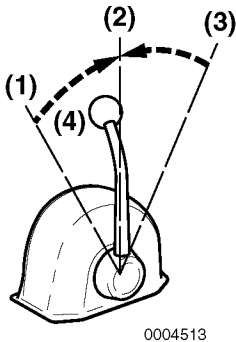

Figure 2
Use the throttle handle (Figure 2, (4)) to control acceleration and deceleration. Move the handle slowly.
2. When moving the handle between FORWARD (Figure 2, (1 or 3)) and REVERSE (Figure 2, (3 or 1)), bring the handle to NEUTRAL (Figure 2, (2)) and pause before slowly shifting to the desired position. NEVER shift abruptly from FORWARD to REVERSE or vice versa.